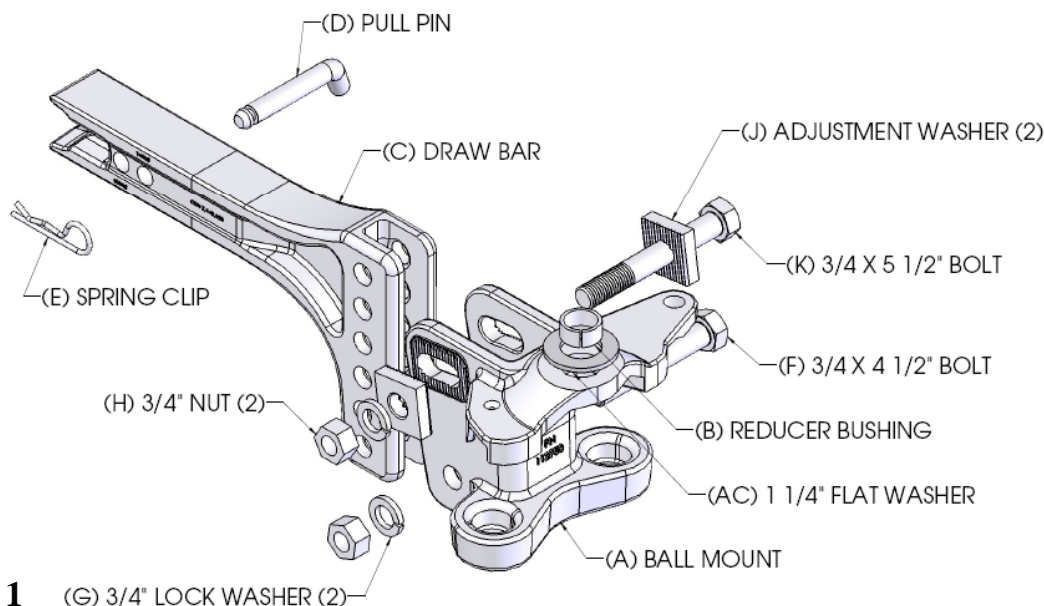
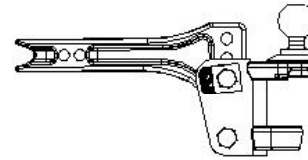

Fig. 1 (G) 3/4\" LOCK WASHER (2)
Fig. 7
- Attach hitch ball to the ballmount (A) shown in Fig. 1. Standard height hitch balls with 1-1/4" shanks are typically supplied with lock washers and nuts. If a 1" shank ball is used, use reducer bushing (B) to reduce hole size in the ballmount to 1". If using an 1-1/4" shank ball on 600 or 800 lb kits, the supplied 1-1/4" flat washer (AC) may be used between the ball and the ball mount to space the ball upward slightly to prevent trunnion interference during a sharp turn. Always use a lock washer and place the washer between the nut and ballmount. Unless otherwise specified by the ball manufacturer, torque ball nut to 450 ft*lbs for 1-1/4" nuts and 250 ft*lbs for 1" nuts.
- Weight distribution kits are sold with and without draw bar (C). Some installations may require a longer draw bar. Extended bumper guards, pickup truck caps, or rear mounted spare tires can limit turn angles unless a longer draw bar is used. Individual draw bars are available in various sizes for length and height.
- Insert the draw bar into the hitch box and install pull pin (D) and spring clip (E). Place ballmount onto draw bar and move up or down so the top of the ball is approximately 1/2-1" above the top of the trailer coupler. Draw bar may be used in either the up or down position shown in Fig. 7.
- Install 3/4 x 4-1/2" bolt (F) in the lower hole of the ballmount as shown in Fig 1. Install the 3/4" lock washer (G) and snug the 3/4" nut (H).
- Install 3/4 x 5-1/2" bolt (K) with two adjustment washers (J) as shown in Fig 1. Install lock washer and nut. Align the washers as shown and hand tighten nut. Recheck the "Y" dimension and torque both 3/4" nuts to 300 ft*lbs. If a large enough torque wrench is not available, torque nuts to 150 ft*lbs then tighten the nuts an additional 1/4 turn. Do not lubricate the threads.